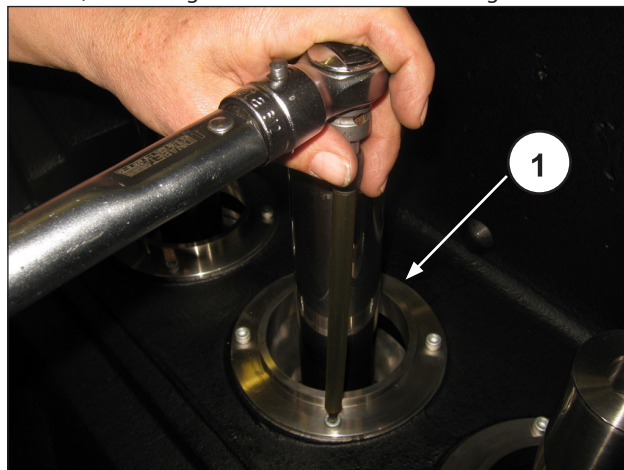

Fig. 160
Tighten the four M6 screws (pos. ①, Fig. 160) using a torque wrench, calibrating them as described in heading 3.